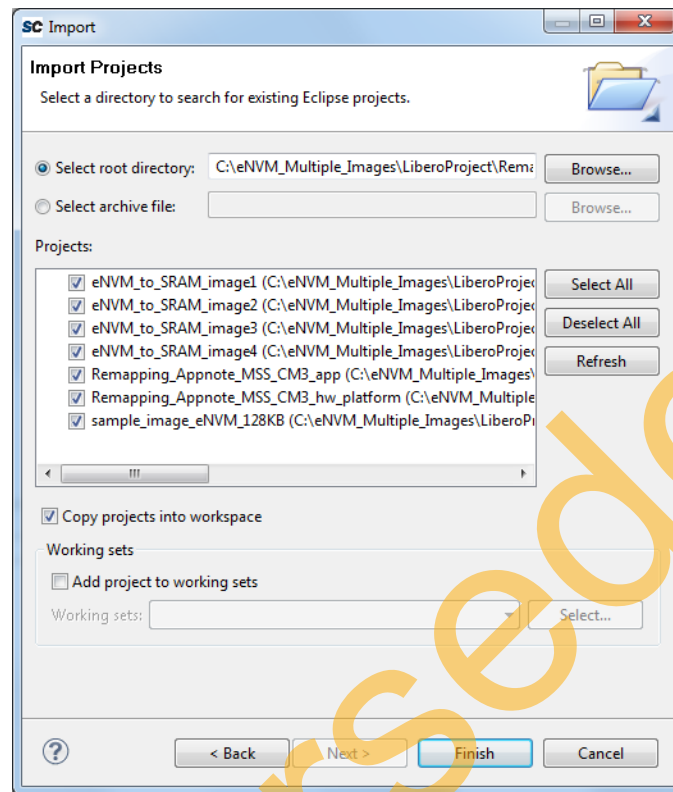

Figure 34 • SoftConsole IDE - Creating Work Space in App Folder
4. Ensure that **Copy projects into workspace** check box is checked as shown in Figure 34. Click **Finish**.